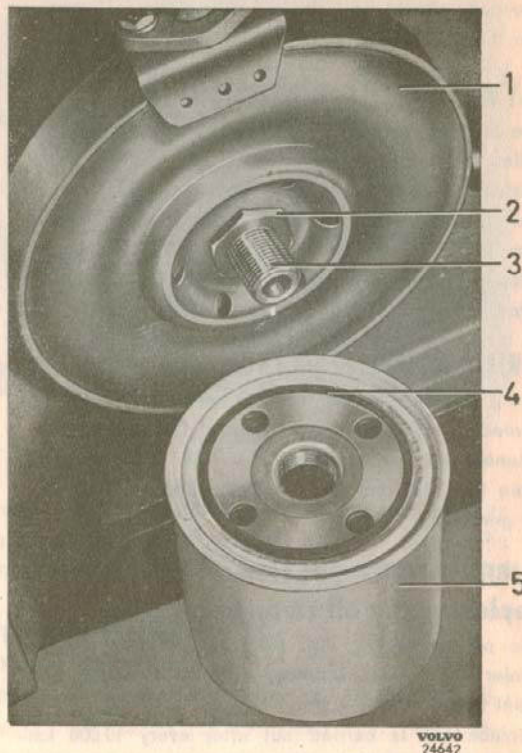

Fig. 1-59. Oil cleaner ready for fitting
2. Smear oil onto the rubber gasket on the new cleaner (4, Fig. 1-59) and make sure that the contact surface for the oil cleaner is free from dirt. If it is smeared with oil the gasket will slide better onto the sealing surface. Screw on the cleaner by hand until it just touches the oil cooler.
3. Remove the nut (2, Fig. 1-59) on the nipple for the oil cooler and pull out the cooler.
8. If the nipple (3, Fig. 1-59) is replaced, the new nipple should be tightened to a torque of 4.5–5.5 kgm (32–40 lb.ft.).